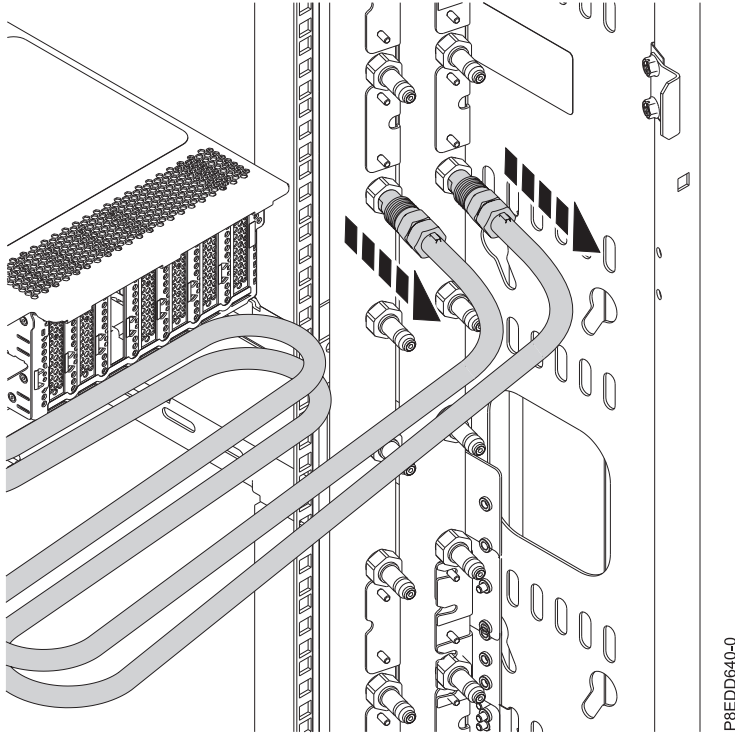

Figure 42. Disconnecting the water hoses
2. For a water-cooled system, label and disconnect the water hoses at the manifold. Pull the coupling toward you to disconnect the water hoses as shown in Figure 42 on page 63.